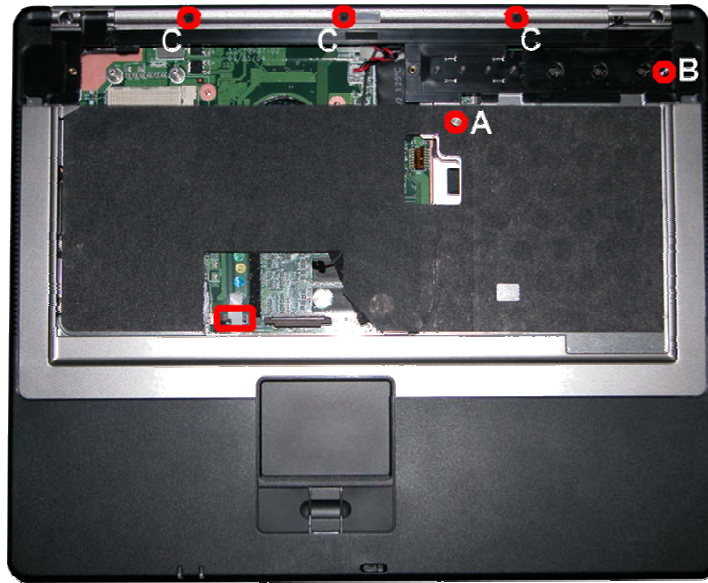

Fig. 28 Top Cover screws
2. Release all screws on the top cover and touchpad connector as shown in Fig. 28